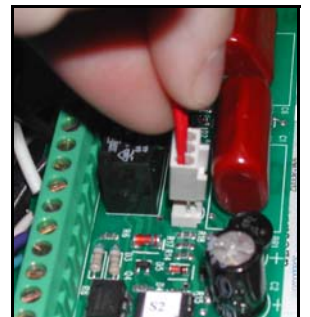

Figure 20
12. Plug the LED wire from the cover onto the board. (See Figure 20)